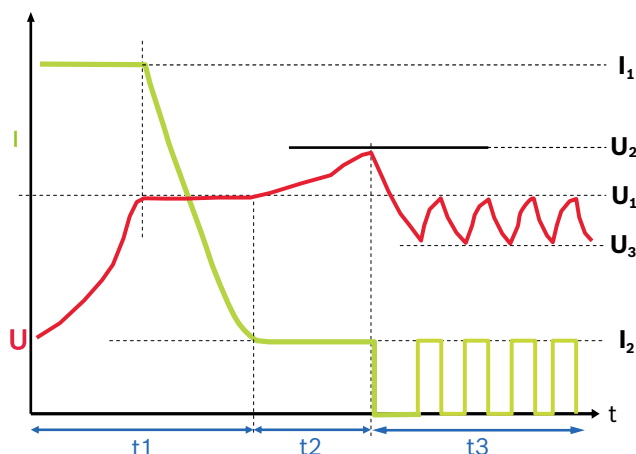

Fig. 3: Charging characteristic
- 1 Charging progress (see charging characteristic fig. 3)